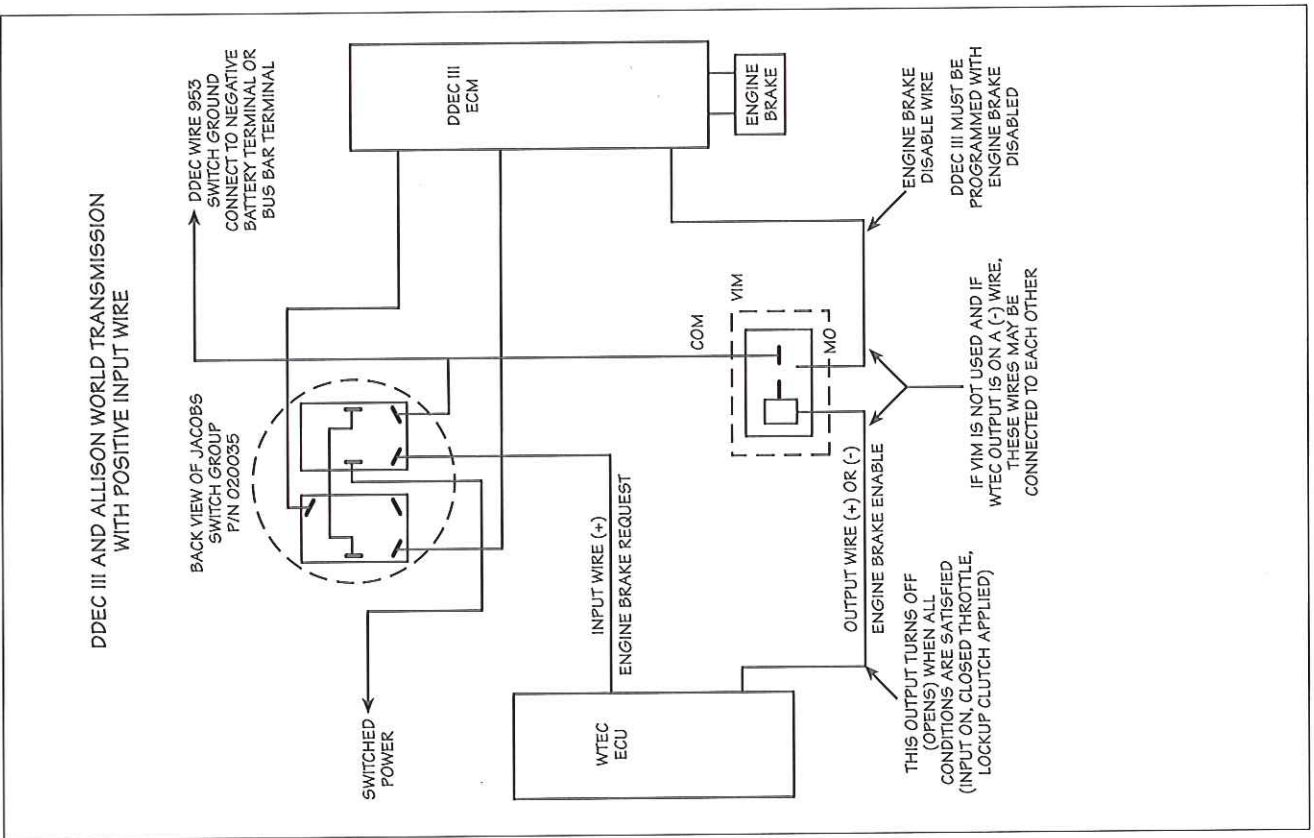

FIG. 34
3. If the engine brake request requires a ground signal, connect the engine brake request wires through the gold contacts of the on/off switch to wire 161B signal ground of the Allison World Transmission as shown in Fig. 34.
4. Wire the engine brake enable signal wire to the VIM relay or DDEC III engine brake disable as shown on Fig. 34 or 35.